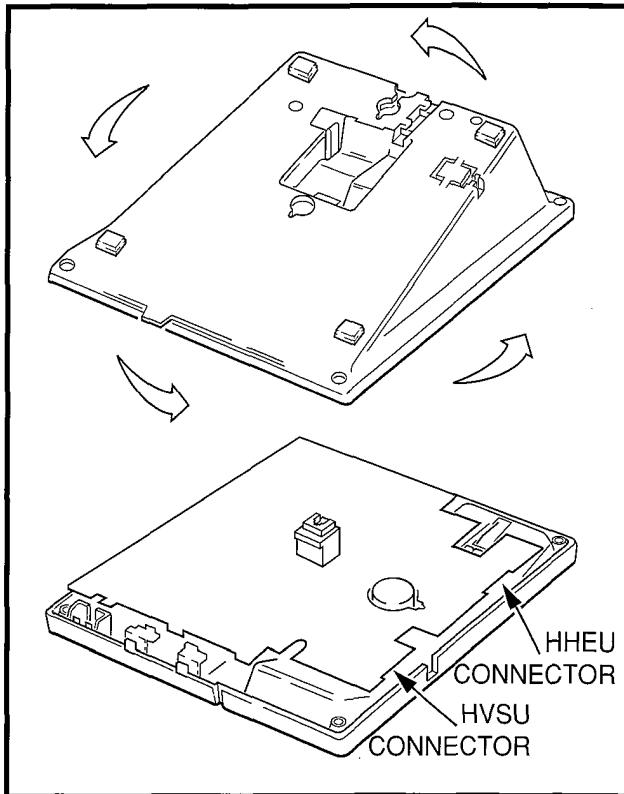

FIGURE 7-7—ELECTRONIC TELEPHONE WALL MOUNTING BASE ROTATION
- 3) Rotate the telephone base 180° and secure it to the telephone with its four captive screws (Figure 7-7).